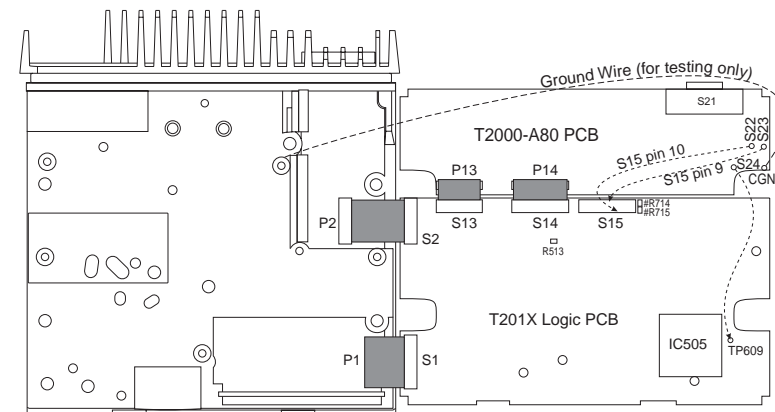

Figure 1: T2000-A80 PCB Mounting (T2010/T2015 shown)
Refer to Figure 1.
Connect a wire from S24 (TX REG) on the T2000-A80 PCB to TP609 on the logic PCB, as shown in Figure 1.
- If the logic and T2000-A80 PCBs are unscrewed and folded out for adjustment, a wire must be temporarily fitted from the radio chassis to the options chassis ground pad (S35), as shown in Figure 1.